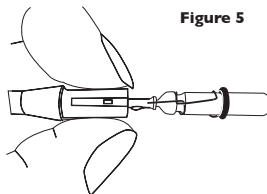

Figure 5
- Squeeze the nock cylinder by hand as figure 5 to release the circuit board anchor.